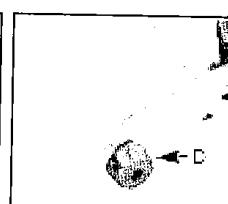

Fig. 3B
3. Before first use, firmly tighten screw (D) clockwise (see Fig. 3B).